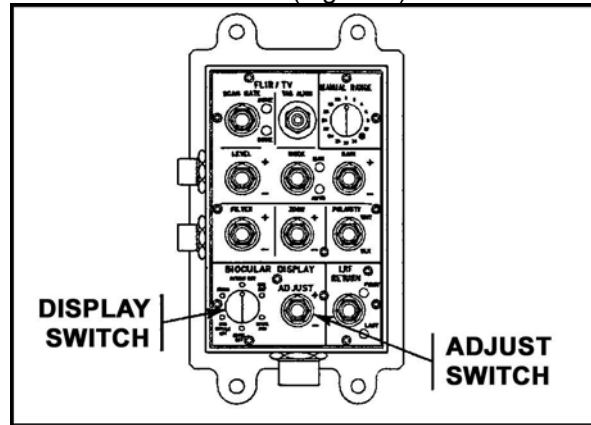

Figure 6. Gunner's sight control panel.
- (2) Locate the MODE switch on the gunner's sight control panel (GSCP).
- (3) Pull down and release the MODE switch to AUTO; ensure the indicator light for AUTO is lit.
- (4) Adjust sight picture, as necessary, using the LEVEL, GAIN, FOCUS, BRIGHTNESS, CONTRAST switches on the GSCP (Figure 6).